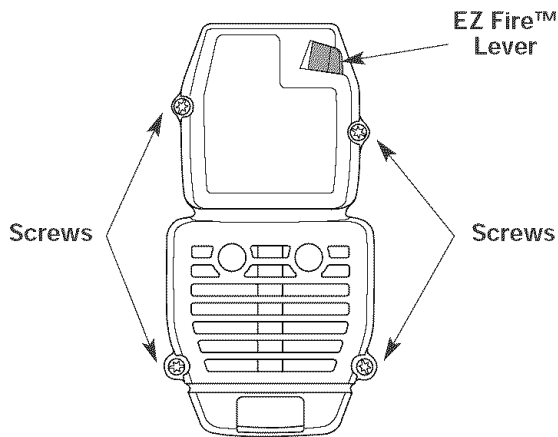

Fig. 13
1. Remove the four (4) screws securing the air filter/muffler cover (Fig. 13). Use a flat blade or # T20 Torx bit screwdriver.
2. Insert the four (4) screws into the holes in the air filter/ muffler cover (Fig. 13) and tighten. Use a flat blade or # T20 Torx bit screwdriver. Do not over tighten. Do not force.